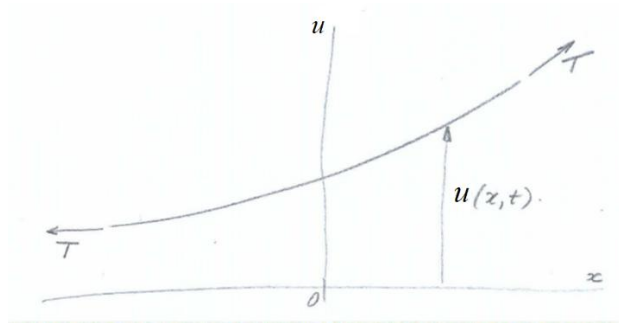

Figure 1 Taut string under tensile load T : (a) general view; (b) infinitesimal element
Consider a taut string of mass m per unit length stretched by a constant tension load T (Figure 1). The string undergoes small-amplitude transverse vibration with frequency ω as described by the following formula: $u(x, t) = U(x)e^{-i\omega t}$ (vibration motion) (1) Do the following:
- (1) state the assumption made about the string tension T during the vibration motion u
- (2) draw free-body diagram (FBD) of an infinitesimal string element of length ds and write sum of y forces in terms of string tension T and slope α
- (3) apply small-displacement approximation and write the approximate expressions for ds , $\sin \alpha$, $\sin(\alpha + d\alpha)$
- (4) write the linearized expression for the sum of y forces
- (5) express the slope increment $d\alpha$ in terms of space increment dx and the relevant partial derivative of the displacement $u(x, t)$
- (6) apply Newton's law of motion (NLM) and write the NLM equation
- (7) write the governing equation for string vibration in terms of tension T , mass per unit length m , and the relevant partial derivatives of the displacement $u(x, t)$
- (8) define wavespeed c for wave traveling in a taut string in terms of tension T and mass per unit length m
- (9) write the wave equation
- (10) substitute Eq. (1) into item (9) and eliminate the time dependency $e^{-i\omega t}$ to obtain an ODE defining $U(x)$